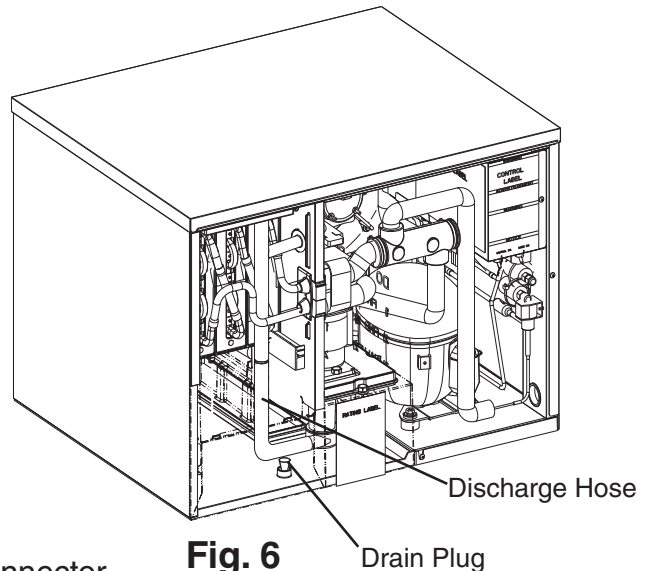

Fig. 6
- 3) Drain the water tank. Remove the front insulation panel, then remove the drain plug located in the bottom of the water tank. See Fig. 6. After the water tank has drained, replace the drain plug in its correct position.
- 3) Remove the front insulation panel, remove the drain plug in the bottom of the water tank. Disconnect the discharge hose from the bottom of the pump motor. See Fig. 6. After the water tank has drained, replace the drain plug.